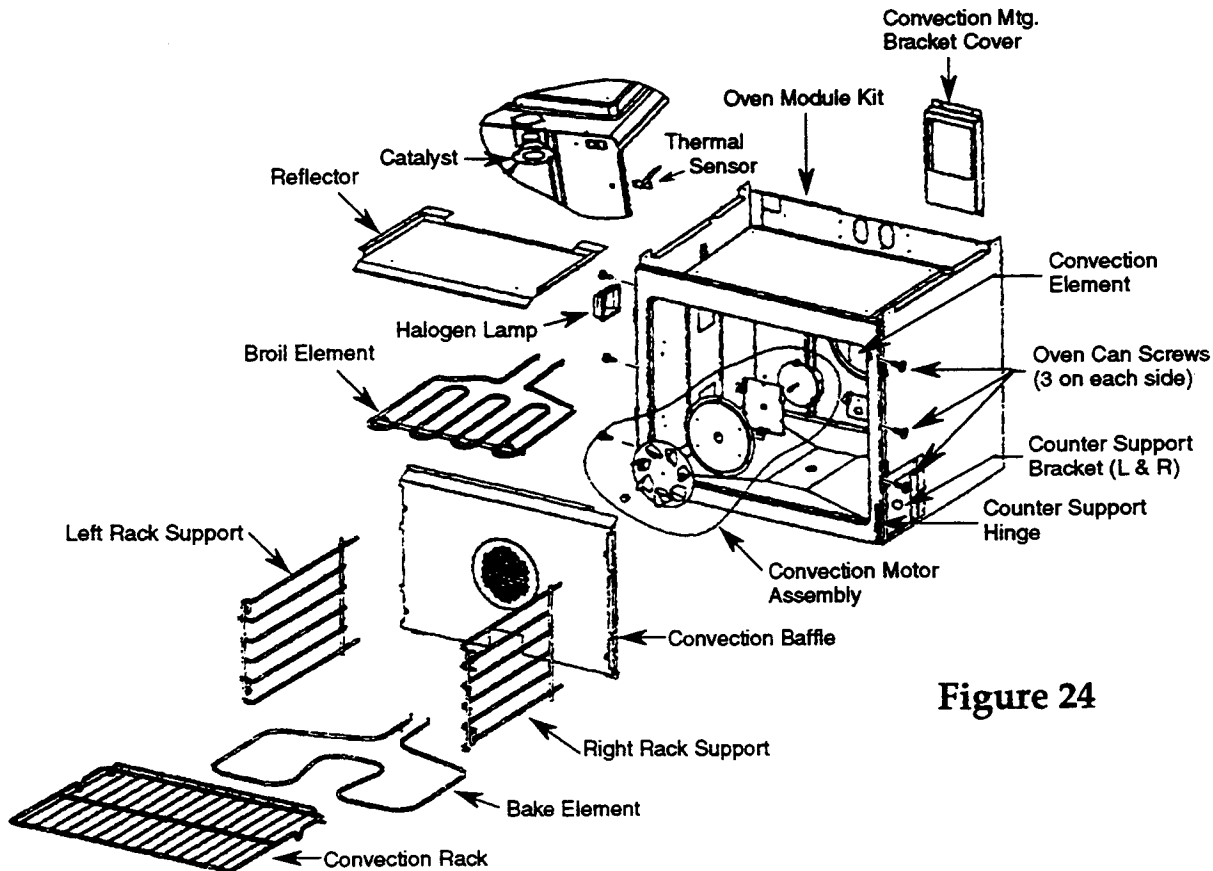

Figure 24
4. Remove the components from the oven, shown in Figure 24. Refer to the sections in this manual for the procedures on removing the components.